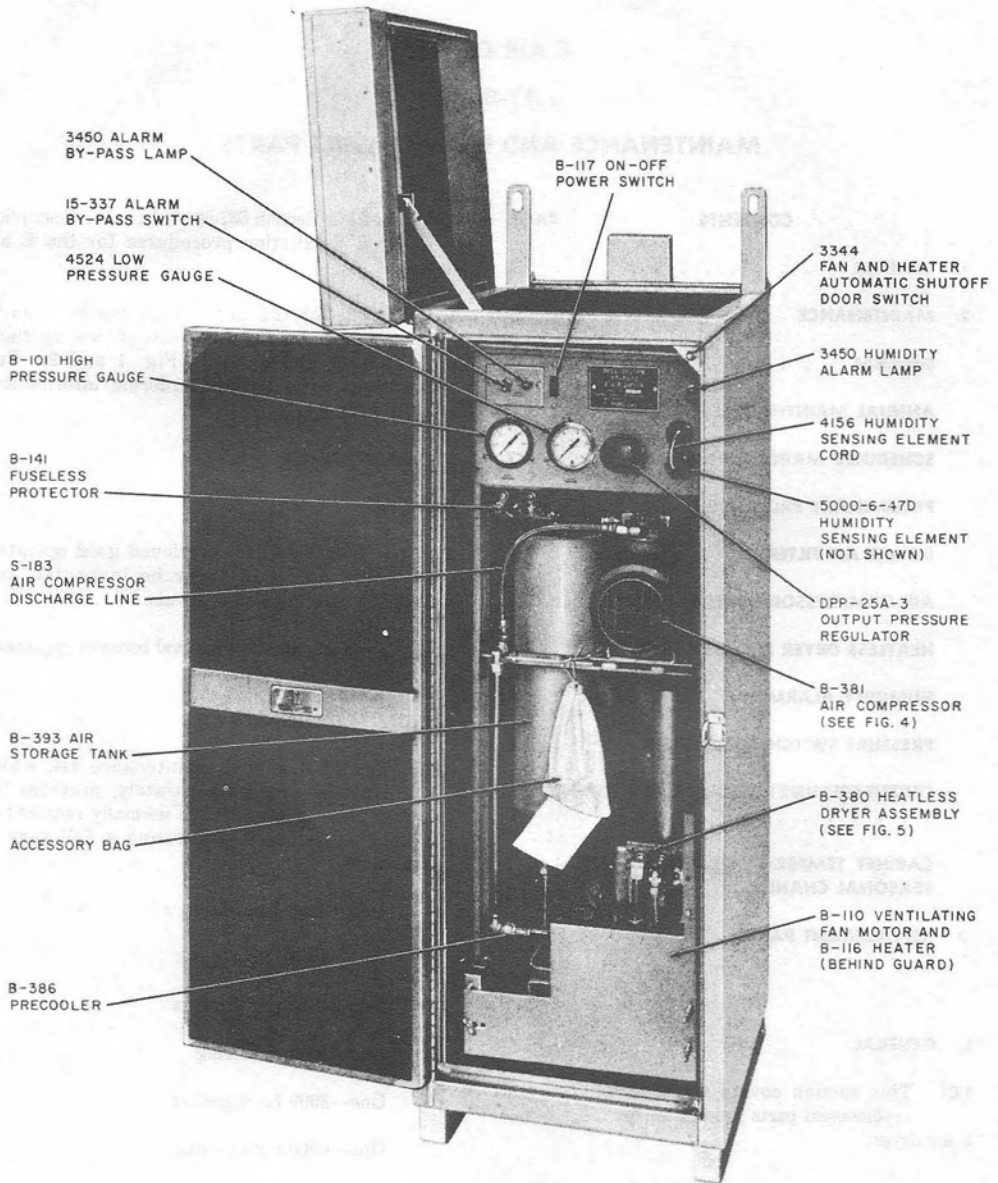

Fig. 1—E Air Dryer—Cabinet Doors Open
1.04 Parts for the dryer that can be readily replaced in the field are shown by their part number and name in Fig. 1 and 2. For replacement parts list and ordering information, refer to Part 3.